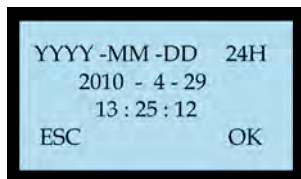

Figure 2-90 Date & Time Example
4. Press **OK** to display the Date & Time (see **Figure 2-90** for an example). Press the down ▼ or ▲ up arrow buttons to move forward or backward, one field per press. Use the numeric keypad to enter the changes to the date and time values. Only allowable values for each field will be accepted, i.e., 14 for month is not a valid value.